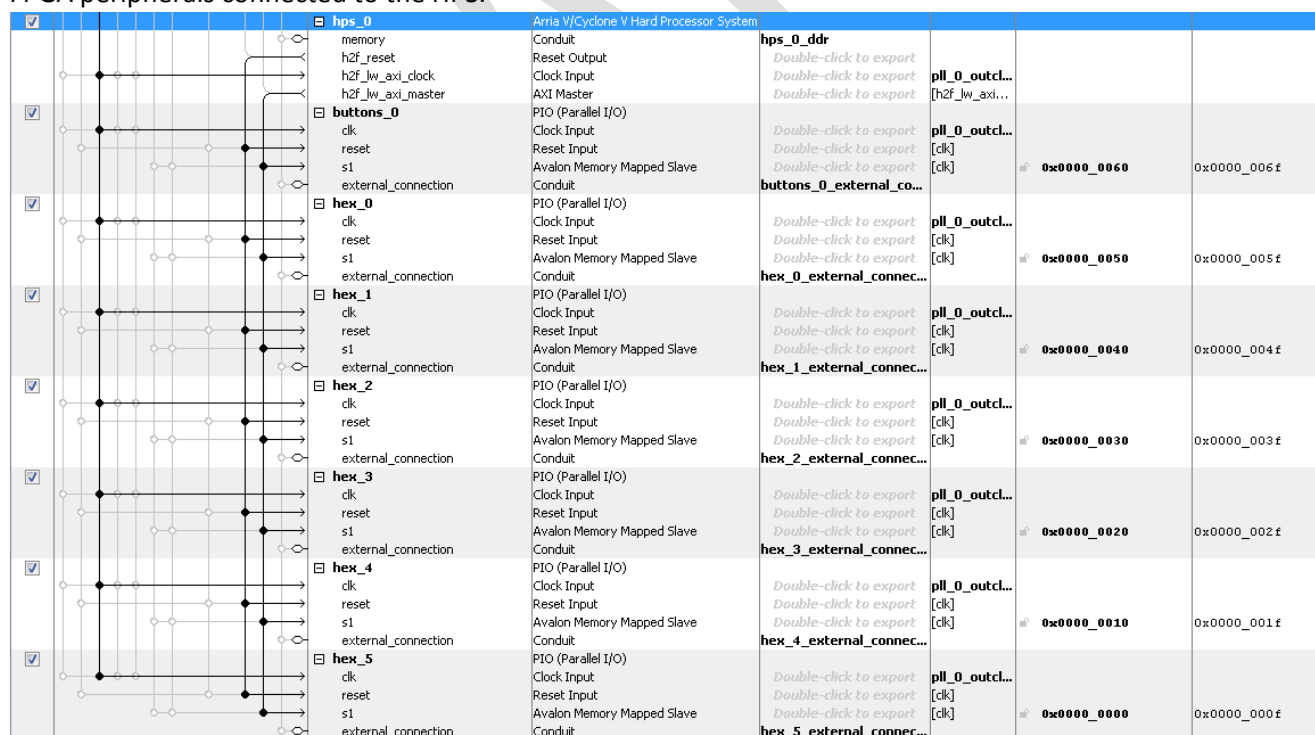

Figure 7-6. Adding Buttons and 7-segment Displays to the LW HPS-to-FPGA Bridge
26. Connect the system as shown in Figure 7-6 below (we don't show the full system to make figures hold on one page). Notice that we use "hps_0.h2f_reset" as the reset signal for the components connected to the HPS. This is a design choice so we can separately reset FPGA-only peripherals, and FPGA peripherals connected to the HPS.